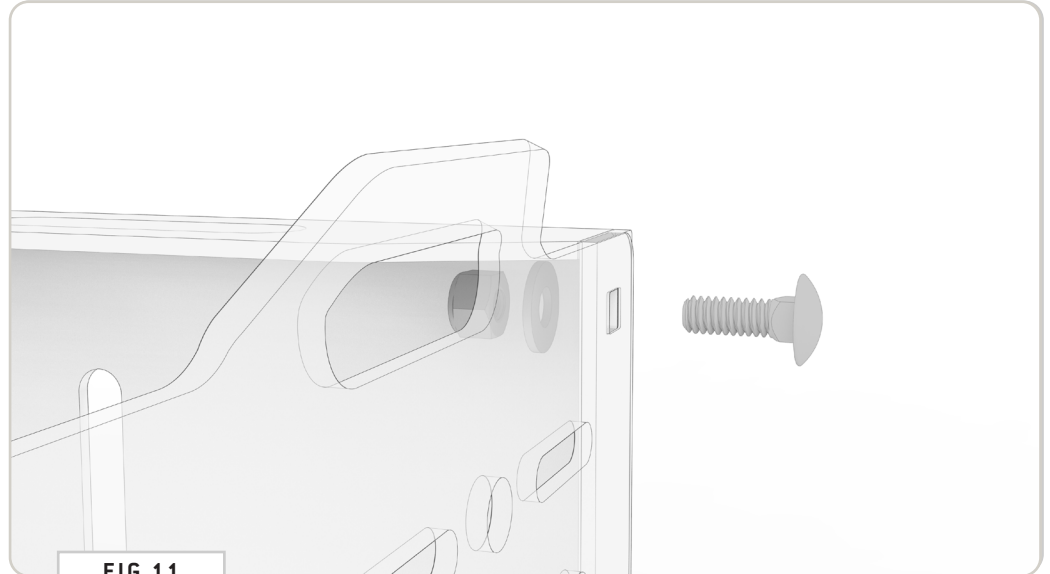

FIG 11
2.5 Secure Panels: Secure the assembly using the supplied 1/4-20 x0.75 Carriage Bolts, Flat Washers and Nylon Locknuts (FIG 11+12).